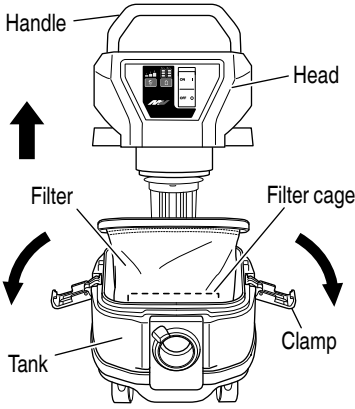
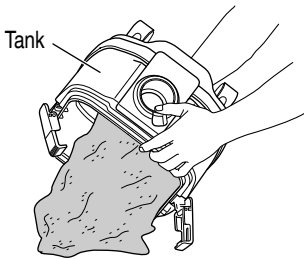

Fig. 20
Fig. 21
- (1) Remove the clamps (2 pieces) and raise the handle of the head. (Fig. 20)
- (2) Lightly striking the inner side of the filter several times, remove dusts attached to the filter.
- (3) Tilt the tank and dump dusts. (Fig. 21)
- (4) Attach the filter, the filter cage, the head, and the clamp in the initial positions.